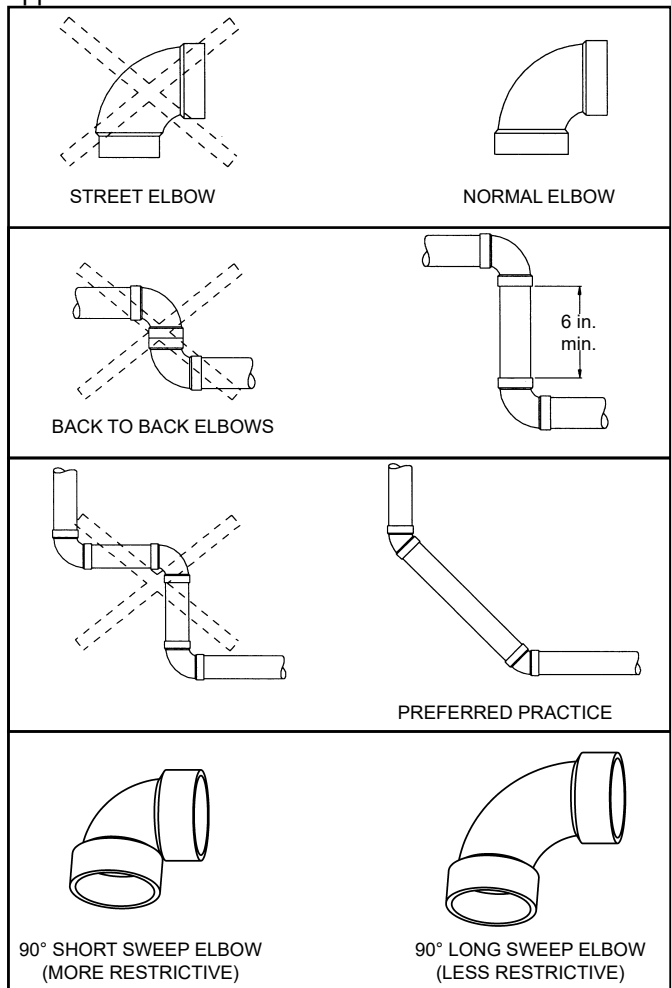

Figure 31.
Note: The information provided in Figure 31 is intended as a guideline for good vent installation practices only and is not intended to restrict venting options beyond those restrictions established by the current edition of the “**National Fuel Gas Code, ANSI Z223.1/NFPA 54**” or any applicable local and state codes.
- Avoid using 90 degree elbows "back to back" and do not use street elbows. Maintain a minimum 6 in. straight section between elbows. Closely coupled and short radius elbows reduce the venting capacity. Figure 31 shows examples of vent pipe connections.